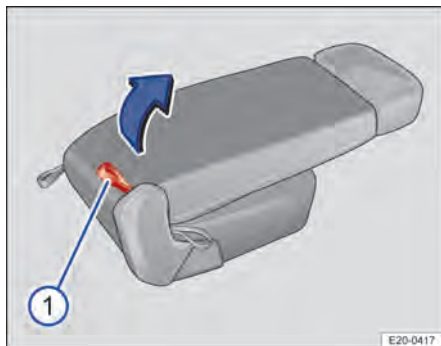

Fig. 67 Second row of seats: Fold seat forward.
2. Pull the corresponding red loop → Fig. 67 ① on the back of the seat and fold the seat forwards.